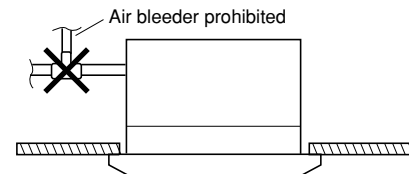

Fig. 6-6
- Do not install an air bleeder as this may cause water to spray from the drain pipe outlet. (Fig. 6-6)